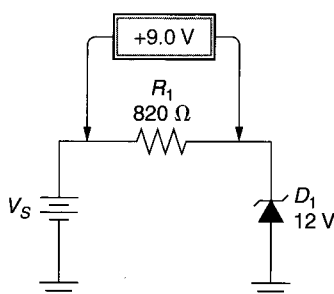

FIGURE 2.53
53. Calculate the power being dissipated by the zener diode shown in Figure 2.53.